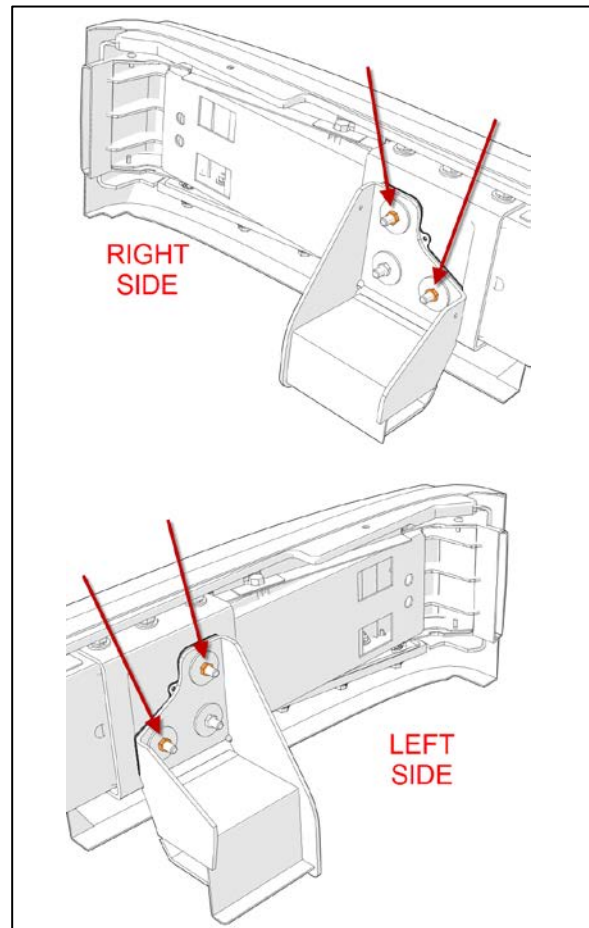

FIGURE 4
5. Locate the rear bumper mounting nuts on right side and on left side (Figure 4).